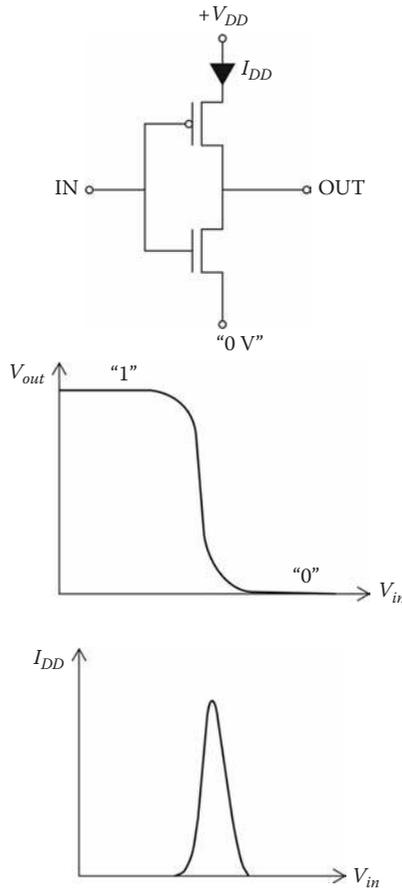

FIGURE 8.31
The MOSFET's supreme virtue actually rests with its use as a regenerative switch, but IF AND ONLY IF we add a clever twist. It should be intuitively obvious that an n FET can be configured as a switch. Apply $V_{GS} > V_{Tn}$ and the transistor turns on, closing the switch. Apply $V_{GS} < V_{Tn}$ and the transistor turns off, opening the switch. On/off, on/off. Binary switch. Fine. How about if we instead use not just an n FET, but also a p FET, in tandem, to form a switch, as shown in Figure 8.31. In this case, the gates of the n FET and the p FET are electrically tied together, as are their drains. The body terminals of each are shorted to their sources (hence, often not explicitly shown), which are connected to V_{DD} (> 0 V) and ground, the voltage ^arails^o of the circuit. Let the connected gates be the input (IN) of the circuit and the connected drains be the output (OUT) of the circuit. What you have just constructed is the famous and now absolutely ubiquitous complementary metal-oxide semiconductor (CMOS) ^ainverter^o. Complementary just means that we use BOTH types of MOSFETs (an n FET and a p FET). Own a computer? Then you own a gazillion of these puppies!
The resultant V_{out} versus V_{in} characteristics of the CMOS inverter, usually called the ^avoltage transfer characteristics^o (VTC), are shown in Figure 8.31. Now, hold on tight. Drum roll please $\frac{1}{4}$ Here's the kicker. Question: How much current flows from V_{DD} to ground during the operation of the inverter? Appreciate that this is a vital question because it translates directly into the power dissipated (heat) by the logic operation ($P = VI$). Said another way, how much power does it take me to turn a ^a1^o into a ^a0^o, and vice versa? Well, look back at Figure 8.31. Observe that when $V_{in} = 0$ V and $V_{out} = V_{DD}$, the *p*FET is on (closed) but the *n*FET is off (open), and thus there is no direct electrical connection between V_{DD} and ground.